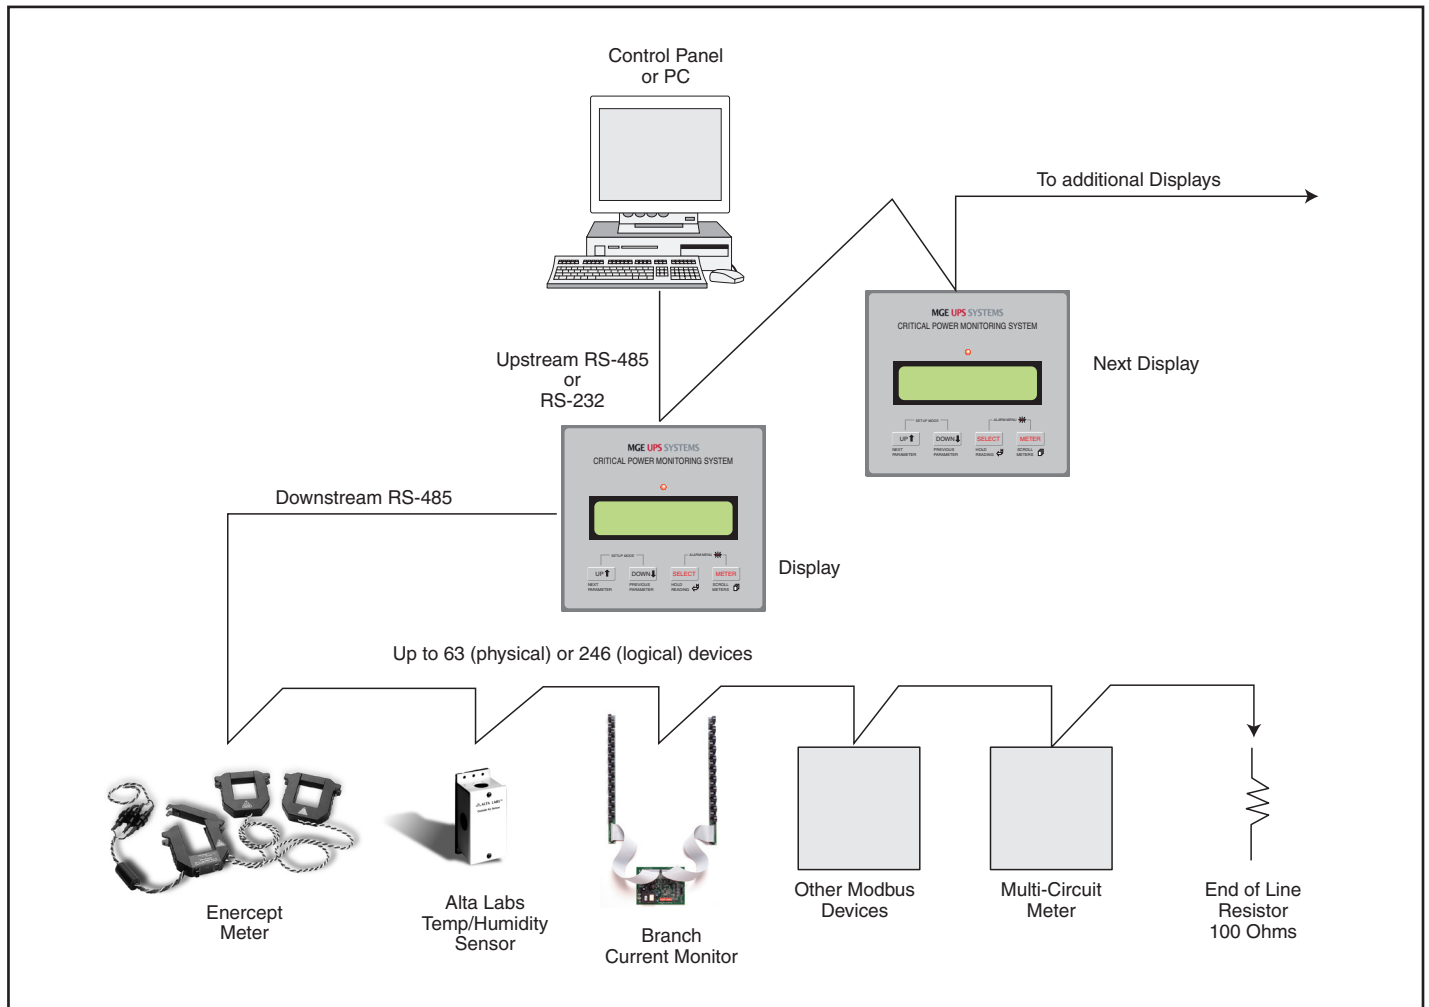
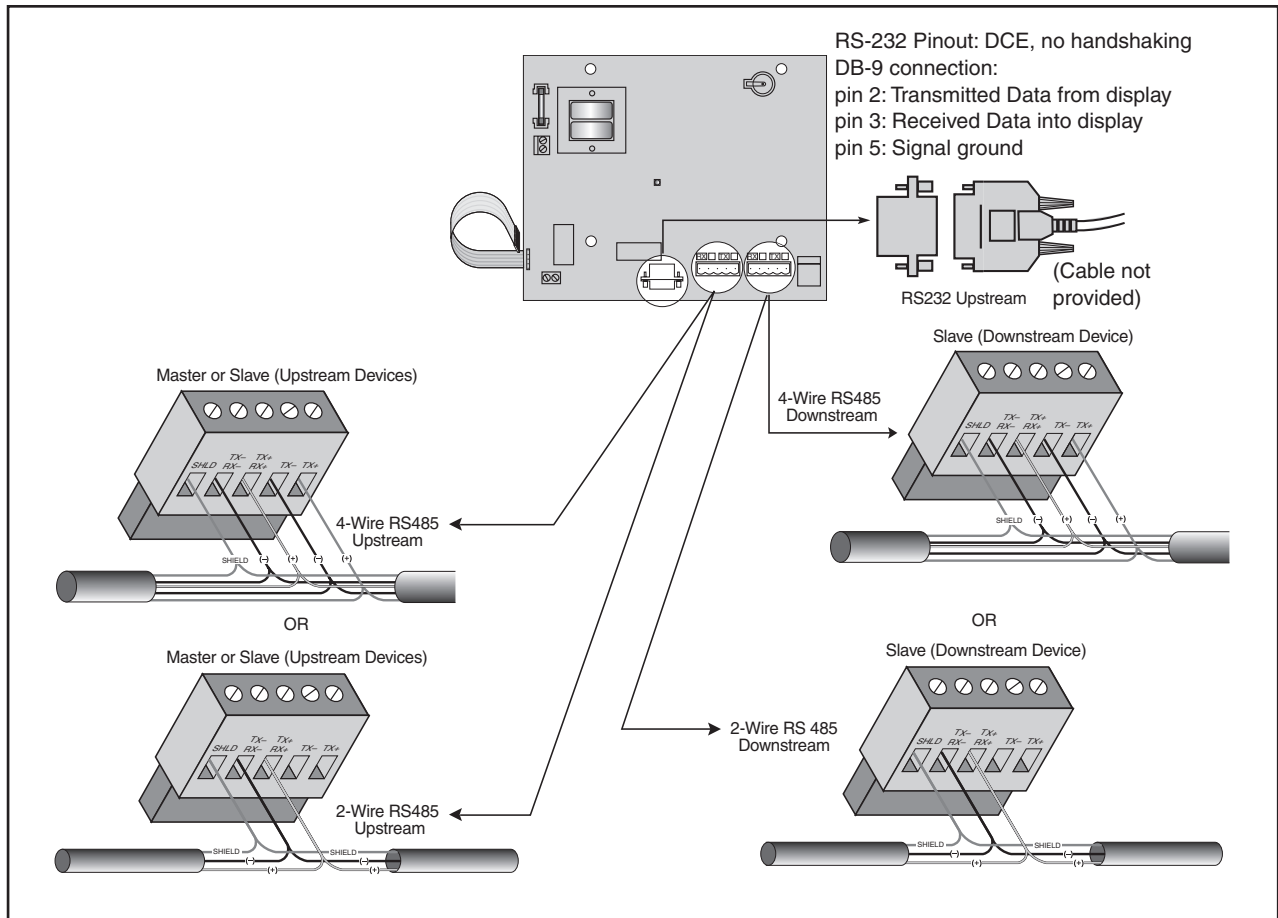

Figure 5 Upstream Monitoring Network Option
Figure 6 Wiring of Downstream and Upstream Devices
The display resides on a Modbus network as a pass-through device (Figure 5). It provides an upstream and downstream communication connection. This allows for flexible data retrieval as the upstream options include RS-232 or RS-485. Figure 6 shows the downstream and upstream wiring scheme.
1. Insert the wires of the daisy chain as shown in Figure 6 and insert the wires of the terminator into the holes of the RS-485 communications connector.